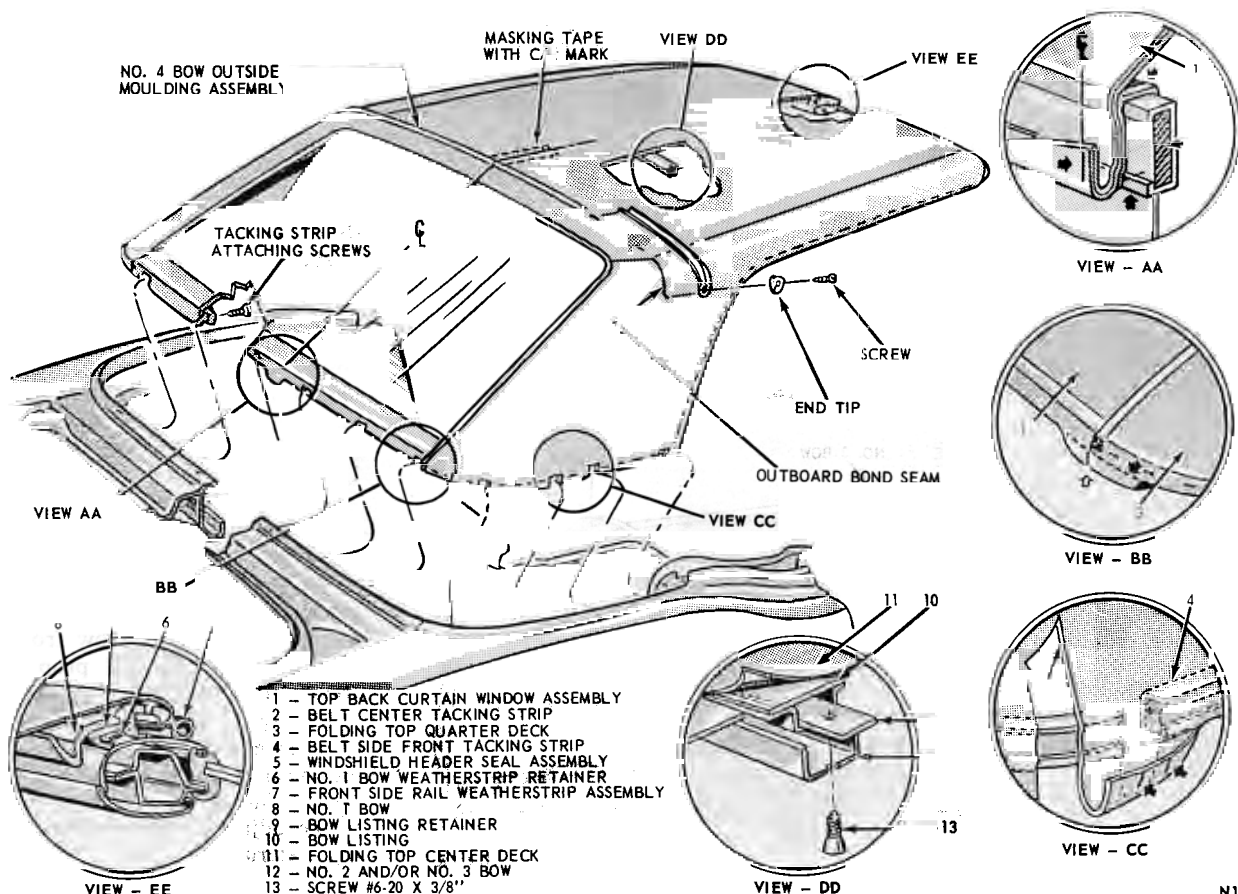

FIG. 13—Top Trim Assembly Attachments—Mustang
7. Remove the front side weatherstrip attaching nuts from both front side rails and remove the weatherstrip assembly (Fig. 13).
8. Remove the windshield header seal assembly and the top material from the No. 1 bow (Fig. 13).
14. Remove the No. 2 and No. 3 bow listing retainer screws and remove both retainers from the listings (Fig. 13).
15. Raise the compartment trim up sufficiently to remove all of the tacking strip attaching screws (Fig. 13).
16. Remove the No. 4 bow outside moulding end tips, moulding and moulding retainer (Fig. 13).
a. Locate the center punch mark on the belt center tacking strip retainer (Fig. 13, View A-A). Transpose this center mark to the adjacent rear curtain and compartment trim materials.
b. Mark the rear curtain along the lower edge of the belt center tacking strip (Fig. 13, View BB and CC).
c. Mark the belt center tacking strip to indicate the rear window opening at both sides (Fig. 13, View BB).
d. Mark the top deck quarters along the lower edge and at the ends of each belt side front tacking strip (Fig. 13, View CC).
the interior surface up. Measure the width and mark the center of the back window at the top, above the zipper, and at the bottom, at the tacking strip area (Fig. 13).
9. Align the top deck quarter to the belt center tacking strip, maintain proper rear curtain opening and retain it with staples (Fig. 13, View BB).
14. Measure and mark the center between the bond seams of the top center deck at the No. 4 bow on the underside of the material. Install a 6-inch piece of masking tape on the top material inner surface at the centerline of the No. 4 bow. Mark the centerline along the entire length of tape. (Refer to Fig. 13.)
the No. 4 bow and pull it forward sufficiently to center the outboard bond seam on the No. 4 bow (Fig. 13). Secure the top material to the No. 4 bow with staples.
17. Install the two retainers in the No. 2 and No. 3 bow listings (Fig. 13).
19. Pull the top trim material forward over the No. 1 bow until the No. 2 and No. 3 bow listings (Fig. 13) are centered over their respective bows. While maintaining tension on the top trim, place a pencil mark on the outer surface of the trim material along the forward edge of the No. 1 bow.
24. Position the windshield header seal assembly (Fig. 13) and secure the seal and top material with staples. Trim off excess top material.
35. Install the No. 4 bow outside moulding retainer, insert the moulding and install the two end tips (Fig. 13).